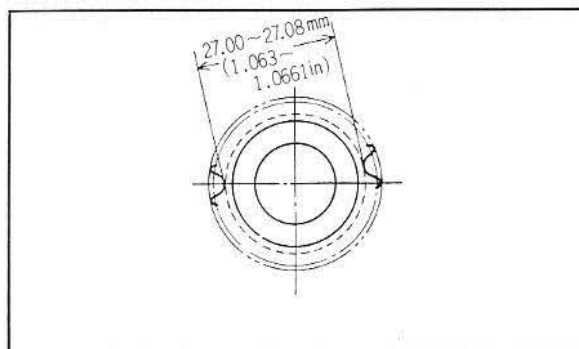

Fig. 2-47 No. of teeth: 15
4. Timing sprocket root diameter. (Fig. 2-47)